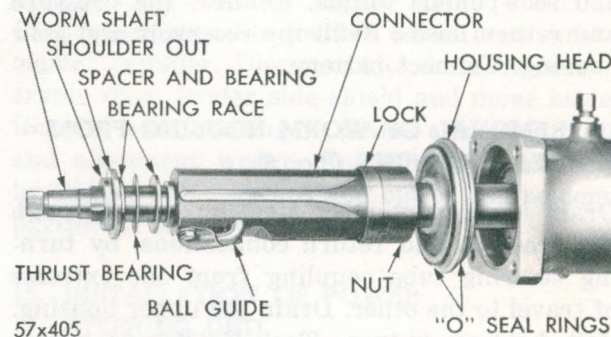

Fig. 19—Worm Connector Assembly
17. REMOVING WORM CONNECTOR AND VALVE CONTROL (Fig. 19)